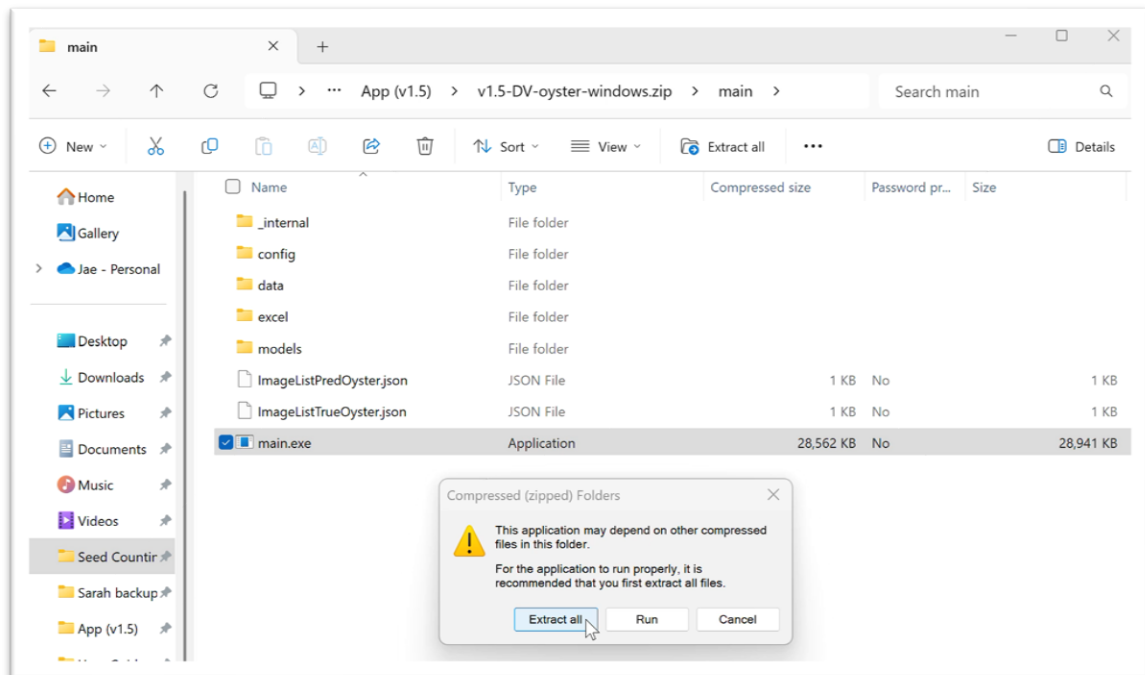

Figure 1.3. Extracting files to run main.exe.
4. Double click on “main.exe” to launch the software. A pop-up window will appear, click “Extract all” (Figure 1.3).